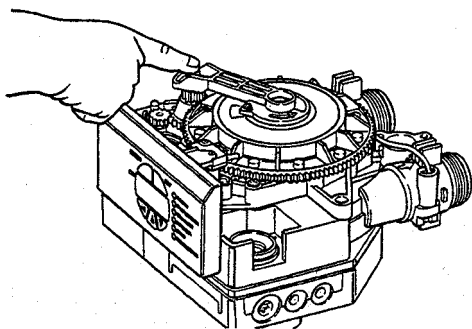

Figure 8
4. Press down on the top of the drive gear to disengage the cam gear, Figure 8.
8. Press down on the top of the drive gear to disengage the cam gear, Figure 8.
2. Press down on the top of the drive gear to disengage the cam gear. Figure 8.